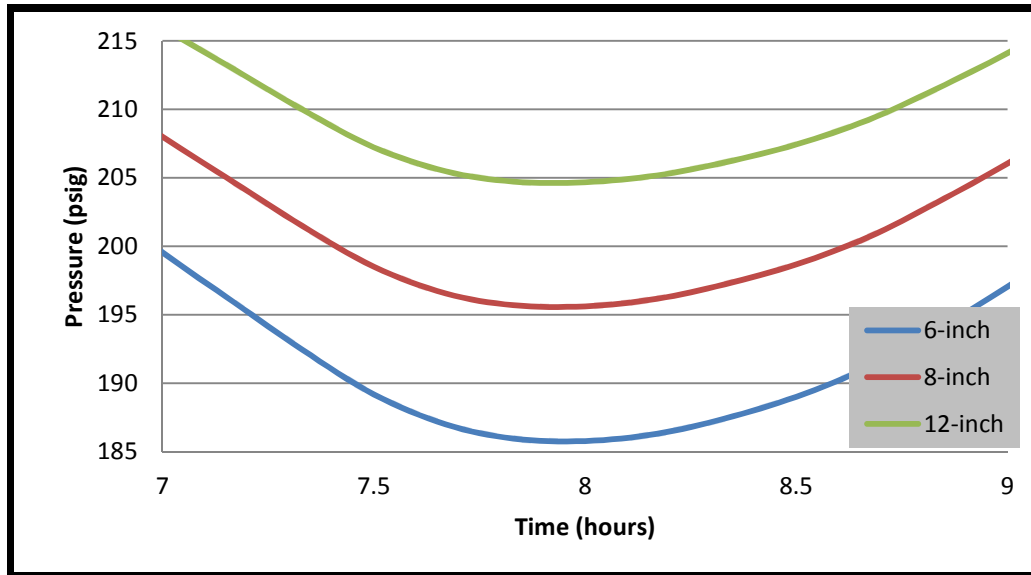

Figure 2: 2020 Minimum Daily Pressures at the Town of Alta
FL8 exists for two main purposes: to provide feed to the intermediate high pressure (IHP) system through regulator stations and to be an east-west link on the high pressure (HP) system in the Salt Lake valley. Figure 2 shows the expected 2020 pressures at the Town of Alta given different replacement diameters of FL8. The results show that the feeder line is not a major trunk line with the largest difference in minimum pressure approximately 10 psig between 6-inch and 8-inch replacements.